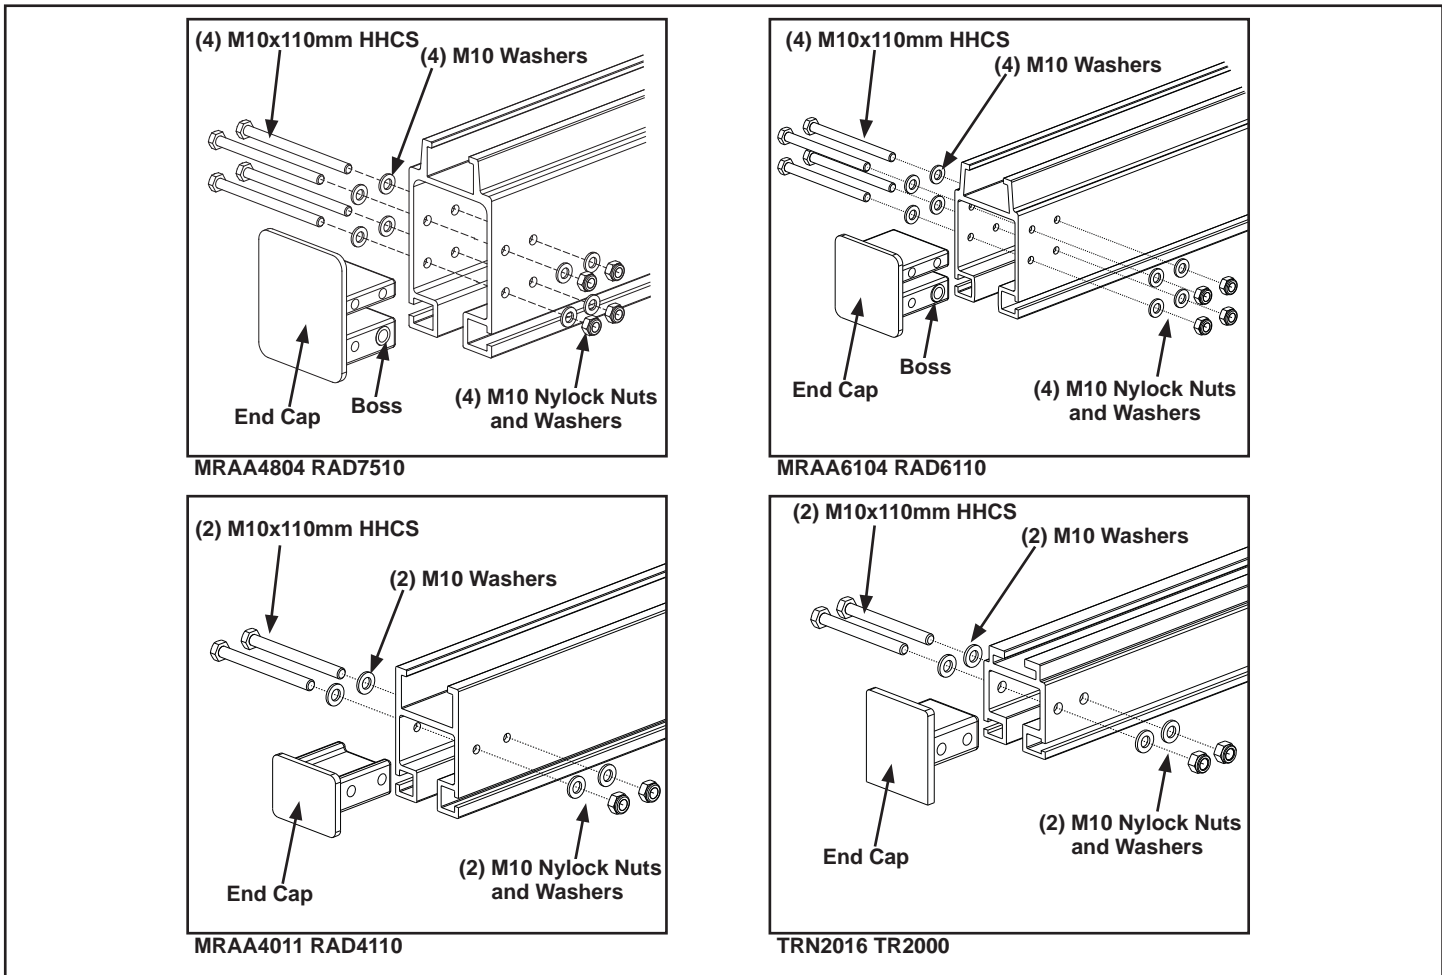

Figure 3-76
- Step 2. Install M10 x 110 mm HHCS, M10 nylock nuts, and M10 flat washers. **Tighten all end cap bolts until bolts are snug + 1/4 turn.** Do not over tighten. See Figure 3-76 for end cap models.